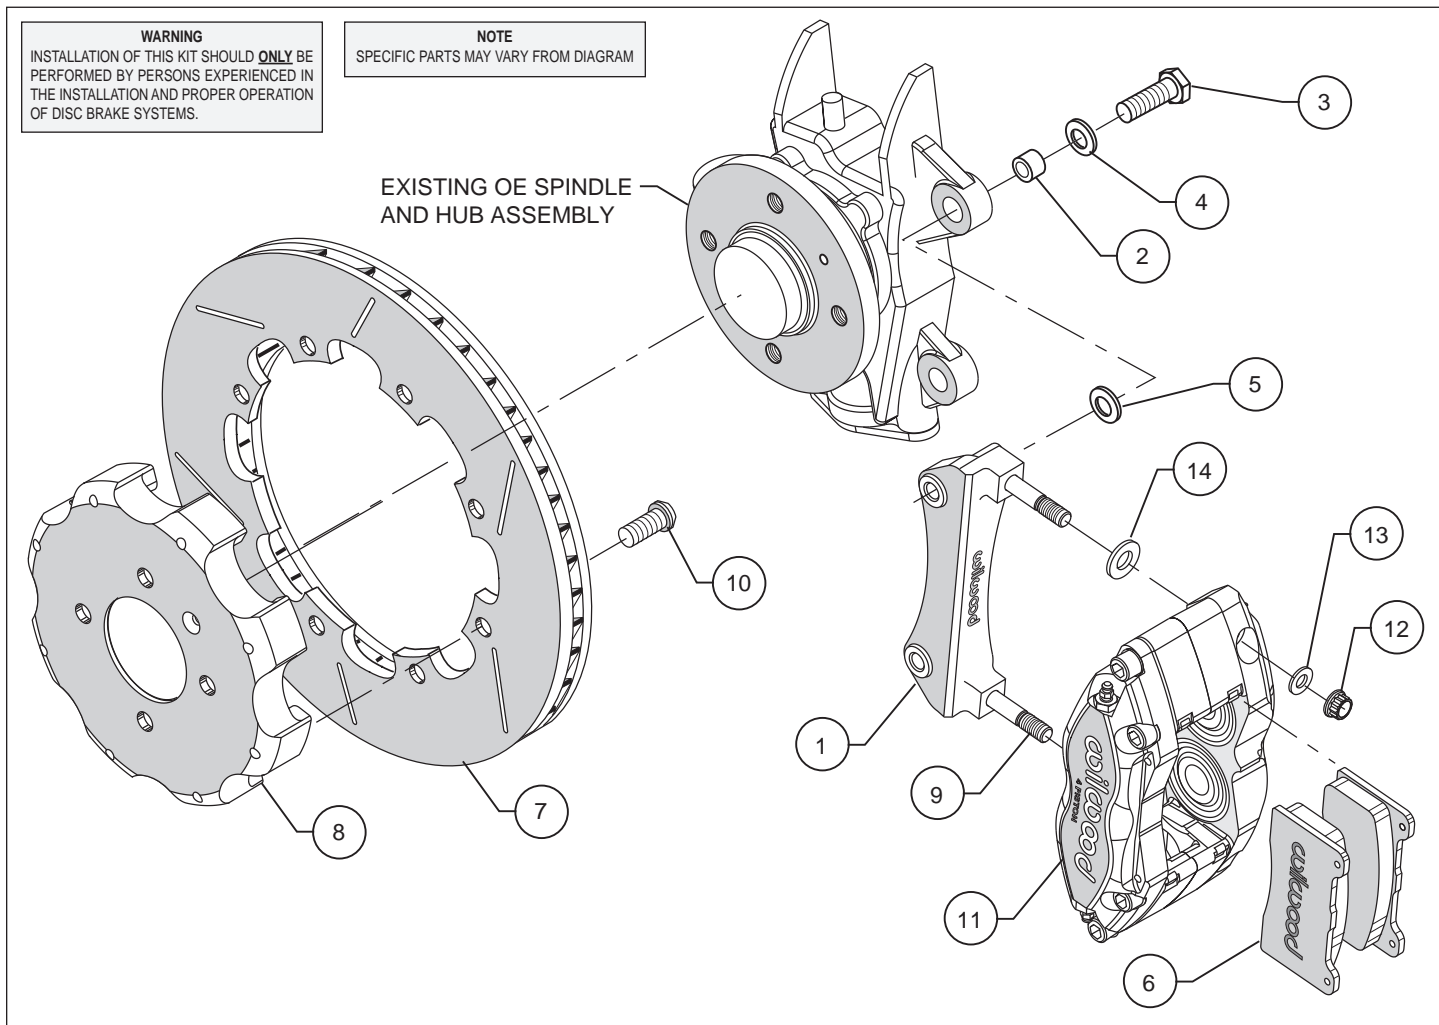

Figure 1. Typical Installation Configuration
- Insert one sleeve (2) each into the holes on the top and bottom of the spindle "ears" where the OEM caliper bracket was removed. The caliper mounting bracket assembly (1) should be installed first with clean, dry threads on the mounting bolts. Install the bracket from the rear side of the spindle by sliding bolts (3) through flat washer (4). Place shim washer (5) between the bracket (1) and the spindle (see Figure 1). The bracket must tighten squarely against the side of the spindle body. Inspect for interference from casting irregularities, machining ridges, burrs, etc. Use one thin shim (5) between the bracket and spindle during initial trial fitting.
- With the larger I.D. side of the rotor (7) facing away from the hat (8), attach rotor (7) to hat (8) using bolts (10) as shown in Figure 1. Using an alternating sequence, remove bolts (10) one at a time, apply red *Loctite*® 271 to the threads, and torque to 25 ft-lb.
- **NOTE:** Please reference the caution statement at the beginning of the assembly instructions. Install one shim (14) over each pre-installed stud (9) on the radial mount bracket (1). Slide the caliper (11) in place over the studs and rotors and install the washer (13) and lock nut (12) to hold the caliper in place. Snug the lock nuts (12) and check that the rotor (7) is centered in the caliper (11). Add or subtract .016" shims (5) as necessary between the bracket (1) and the spindle to center the caliper (11).
- Remove the caliper quick-clip pad retainer from the caliper. Slide the brake pads (6) into place. They should install easily without interference. Check that the outside radius of the brake pad is aligned with the outside diameter radius of the rotor face. Add or subtract shims (14) between the caliper and mount bracket to gain the proper alignment. Reinstall the quick-clip pad retainer.
- Once all clearances have been checked, remove the wheel, caliper, hat, and rotor from the spindle and hub. Secure the caliper mounting bracket (1) to the spindle with bolt (3) using red *Loctite*® 271. Torque the bolts to 60 ft-lbs. Reinstall the hat and rotor assembly and again use several wheel bolts to hold it in place. Lubricate caliper mounting studs and nuts with lightweight oil, reinstall the caliper, torque the caliper nuts (12) to 30-35 ft-lb.